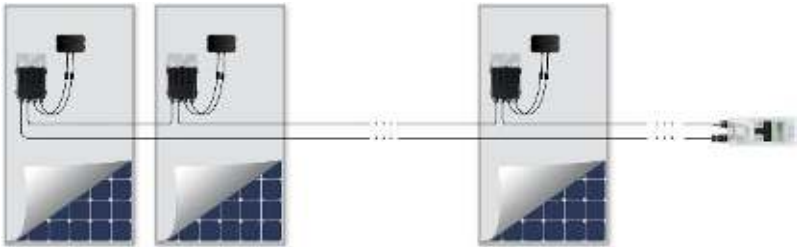

Figure 9: SolarEdge Key connection
- 2 Connect the Plus (+) connector of the string of optimizers to the Plus (+) input connector of the SolarEdge Key. Connect the Minus (-) output connector of the string of optimizers to the Minus (-) input connector of the SolarEdge Key (see Figure 9).